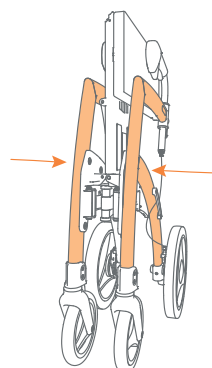

Figure 11C: Push the frame further inside.
- e. Push the sides of the frame towards each other till the rollator is completely folded (**Figure 11C**).